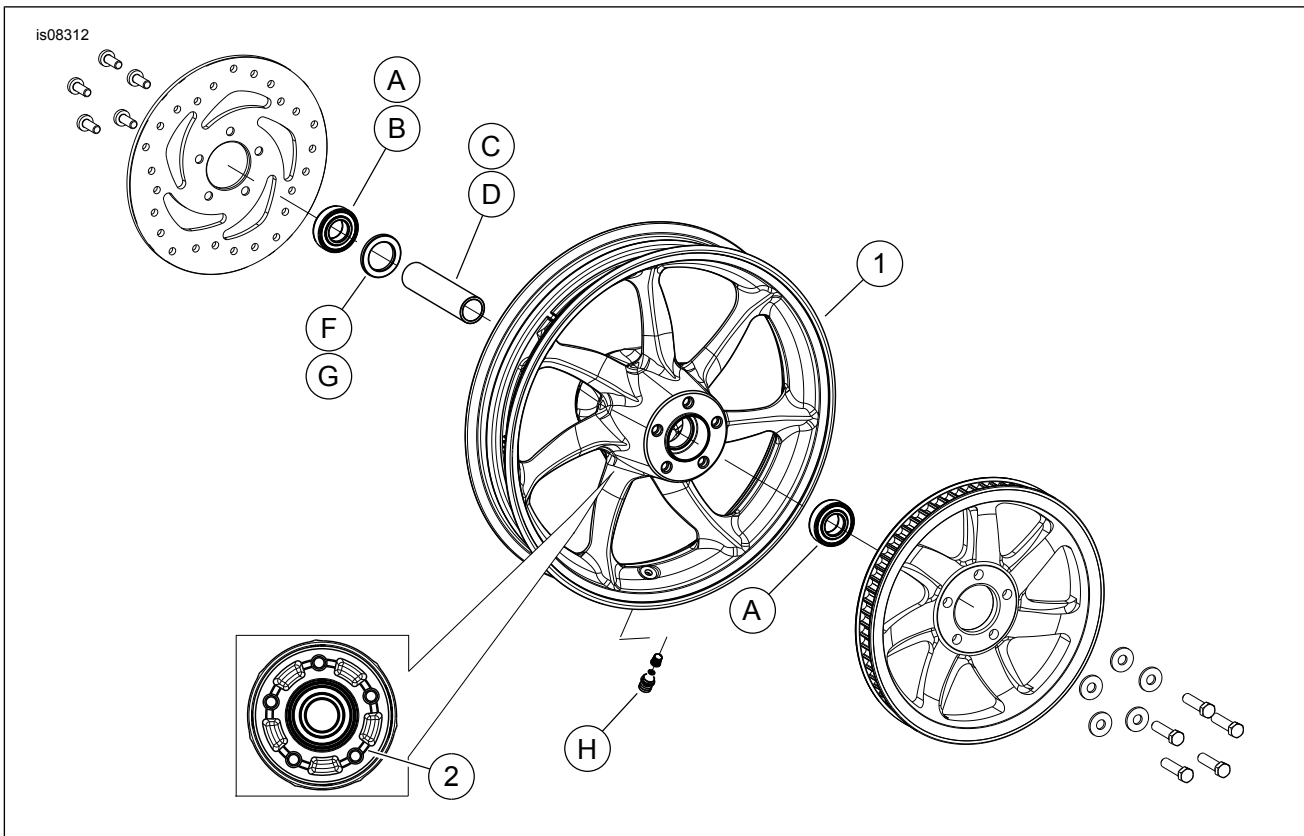

Figure 1. Service Parts: Rear Machete Wheels (16-inch Shown)
Refer to Figure 1. and Table 2.
2. Refer to Figure 1. Install valve stem assembly (H) on wheel. Refer to TIRES in service manual.